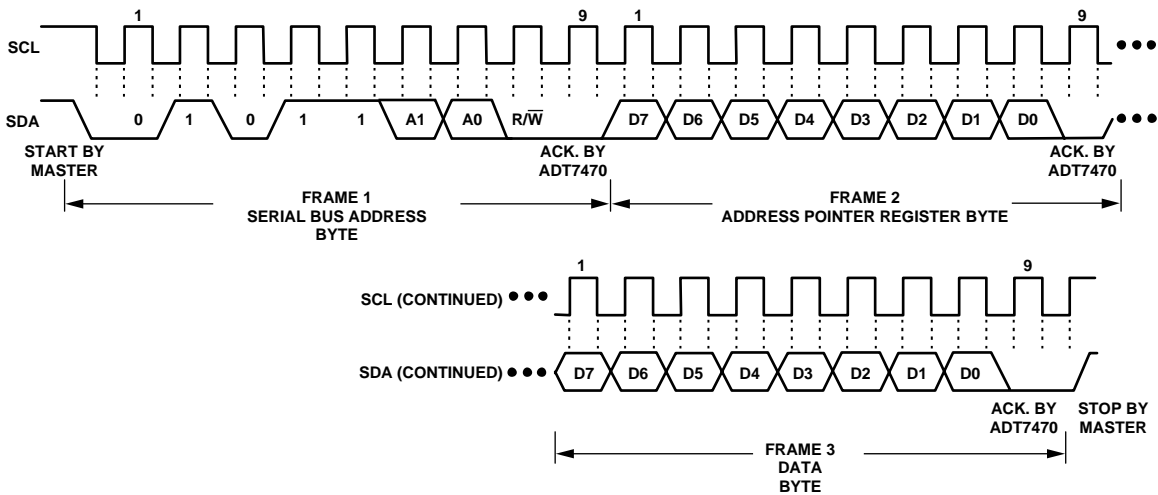
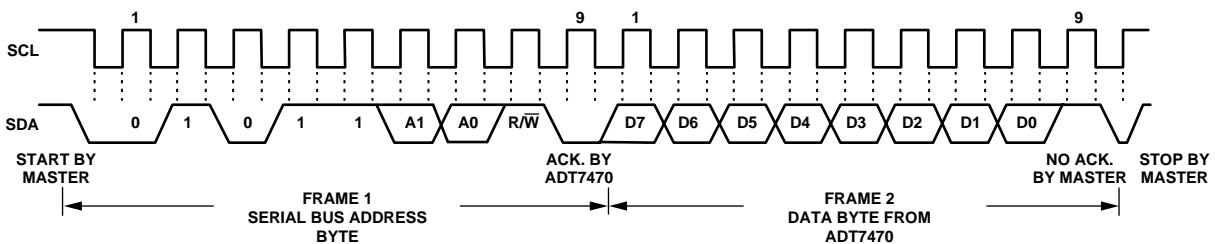

Figure 7. Writing a Register Address to the Address Pointer Register, Then Writing Data to the Selected Register
Figure 9. Reading Data from a Previously Selected Register
This is illustrated in Figure 7. The device address is sent over the bus followed by R/W set to 0. This is followed by two data bytes.
A read operation is then performed consisting of the serial bus address,  $\overline{R/W}$  bit set to 1, followed by the data byte read from the data register. This is shown in Figure 9.
- In Figure 7 to Figure 9, the serial bus address is shown as the default value 01011(A1)(A0), where A1 and A0 are set by the address select mode function previously defined.